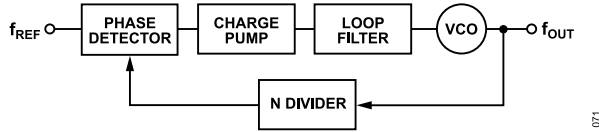

Figure 90. Basic PLL
A PLL is a feedback system that combines a phase detector (PD), a loop filter, and a voltage controlled oscillator (VCO) that is so connected that the oscillator maintains a constant frequency (or phase angle) relative to the reference signal. The functional block diagram of a basic PLL is shown in Figure 90.